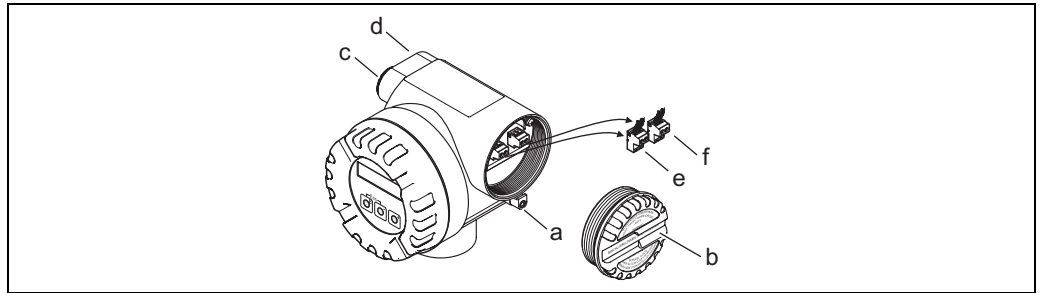

Fig. 15: Connecting the transmitter, Ex d version
5. Pull the terminal connector (g) out of the transmitter housing and connect the cable for the power supply/current output. (→ Fig. 15, A)
Optional: pull terminal connector (h) out of the transmitter housing and connect the cable for the pulse output/frequency output. (→ Fig. 15, B)
secure the ground cable to the ground terminal (→ Fig. 15, C).
Connecting the transmitter, Ex-d → Fig. 15
4. Pull the terminal connector (e) out of the transmitter housing and connect the cable for the power supply/current output. (→ Fig. 15, A)
Optional: pull terminal connector (f) out of the transmitter housing and connect the cable for the pulse output/frequency output. (→ Fig. 15, B)